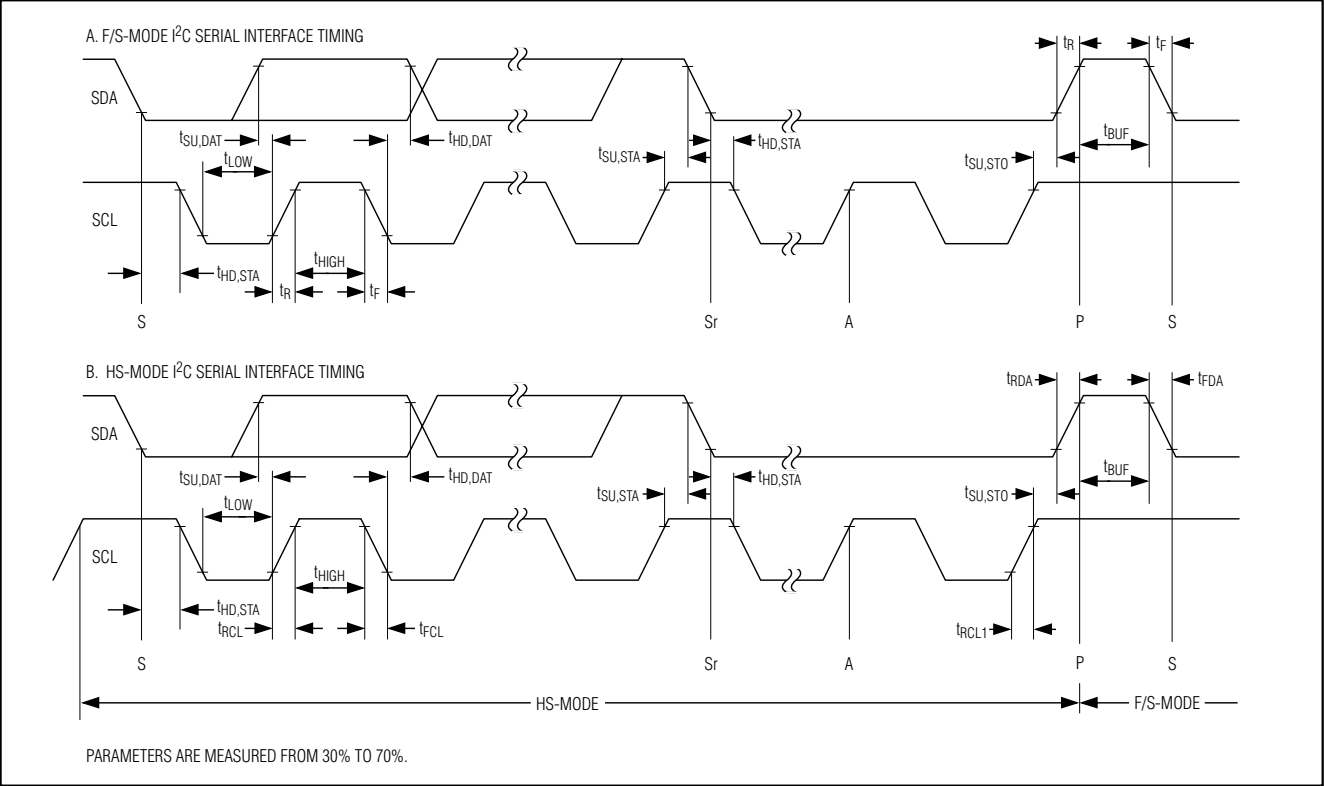

Figure 1. I²C Serial Interface Timing
- Note 9:** A master device must provide a data hold time for SDA (referred to VIL of SCL) in order to bridge the undefined region of SCL's falling edge (see Figure 1).